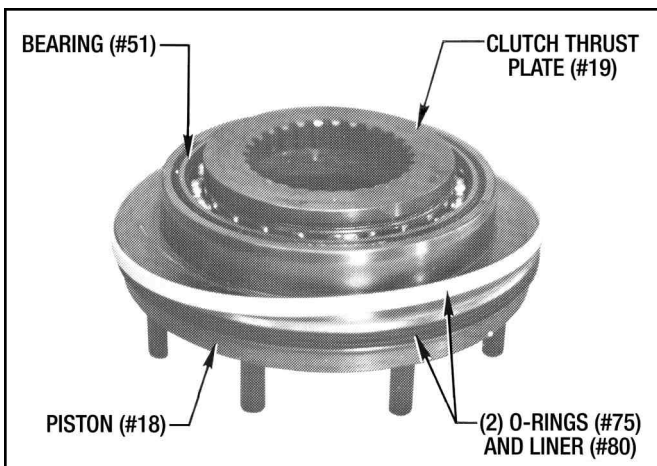

Figure 7.4 - Piston Subassembly
3. Remove (2) O-Rings (#75) and Liner (#80) from the Piston (#18) (See Figure 7-4).